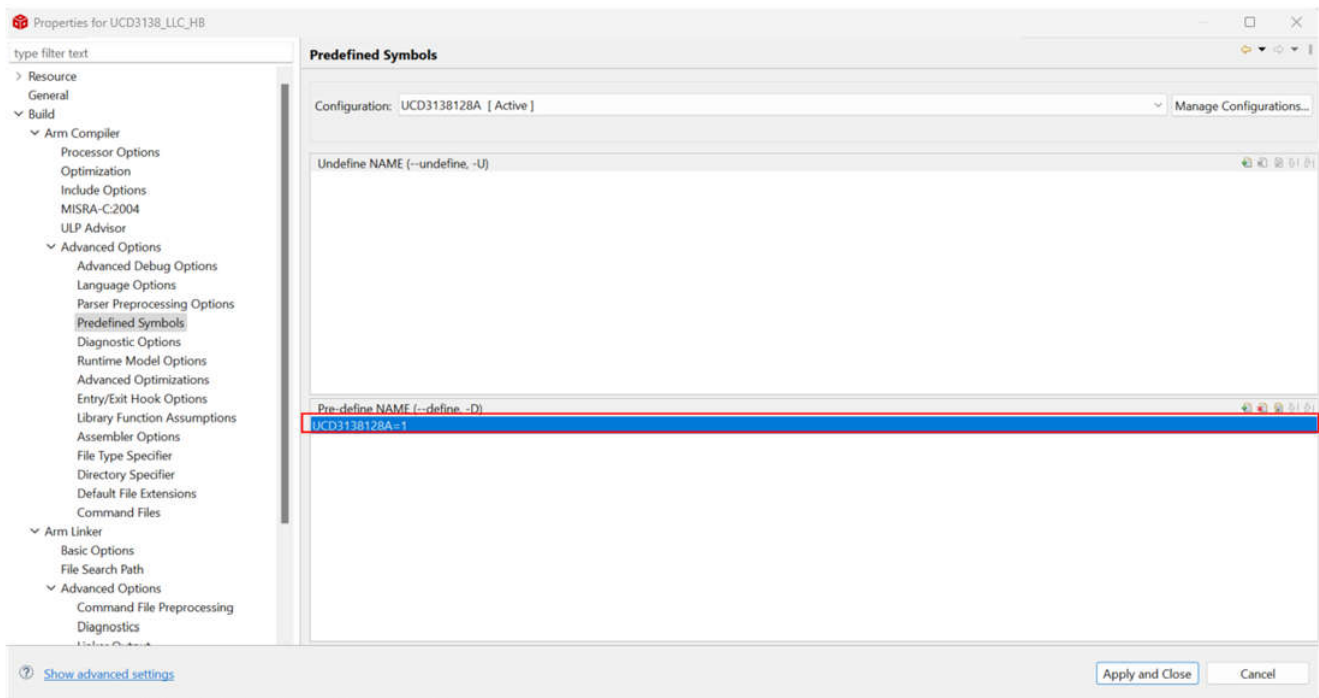

Figure 2-13. Correct Pre-define Preprocessor for Build
- Click the *Project Explorer* pane, right-click the project name, go to *Properties -> Build -> Advanced Options -> Predefined Symbols -> Pre-define NAME*, and set UCD3138128A=1 as shown in Figure 2-13.